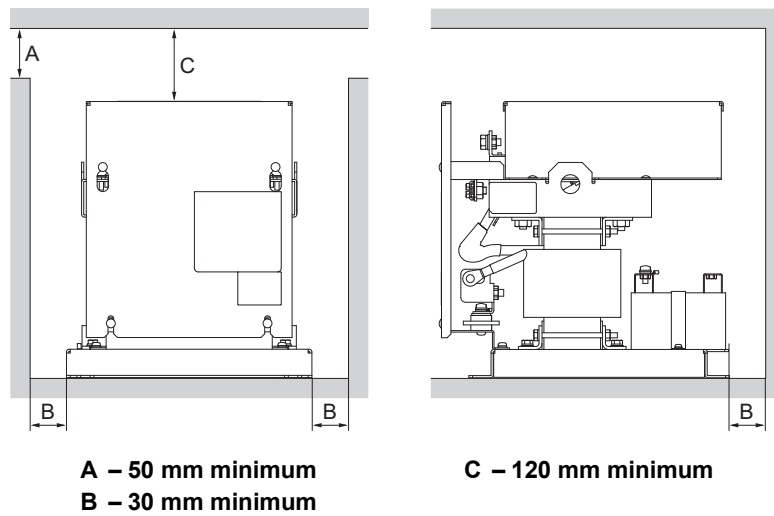

Figure 2.11 Installation Spacing
*Figure 2.11* shows the installation distance required to maintain sufficient space for airflow and wiring.